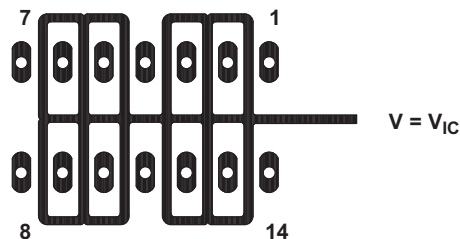
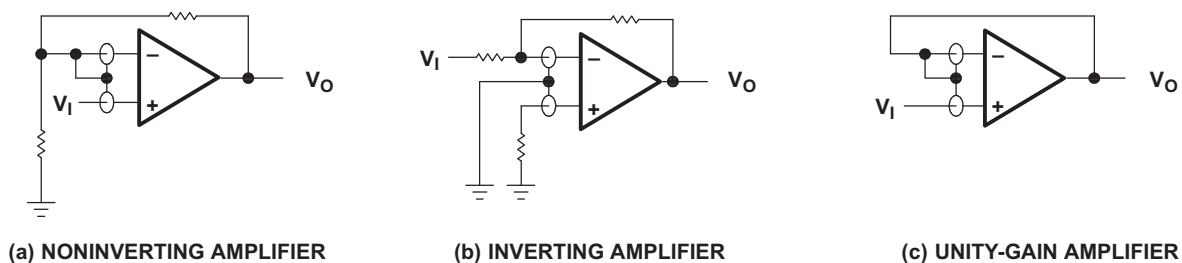

Figure 7-4. Isolation Metal Around Device Inputs (J and N packages)
Figure 8-3. Guard-Ring Schemes
1. Isolate the device from other potential leakage sources. Use a grounded shield around and between the device inputs (see Figure 7-4). Leakages that can otherwise flow to the inputs are shunted away.
Because of the extremely high input impedance and resulting low bias current requirements, the TLC27M4 and TLC27M9 are practical for low-level signal processing; however, leakage currents on printed-circuit boards and sockets can easily exceed bias current requirements and cause a degradation in device performance. Include guard rings around inputs (similar to those of Figure 7-4 in the *Parameter Measurement Information* section). These guards must be driven from a low-impedance source at the same voltage level as the common-mode input (see Figure 8-3).